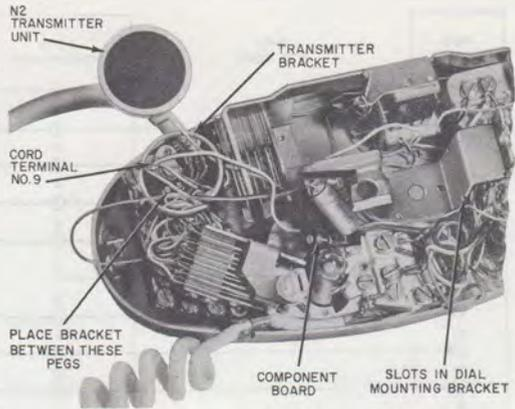

Fig. 4—664C Transmitter, Component Positioning
- (3) Install component board between dial mounting uprights and secure using mounting screw furnished. The component board is notched to fit in the slots on the dial mounting bracket.
- (4) Mount the transmitter bracket on the mounting cord terminal board using one screw from terminal 9 (Fig. 4). Bracket should be placed between pegs on the terminal board as shown in Fig. 4.